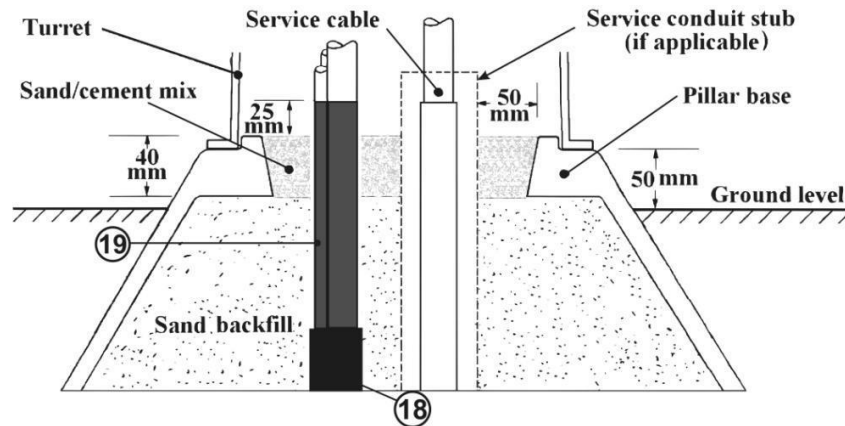

Figure 20 - Pillar Base Details
- 9) Refer to Figure 20 for service conduit stub details (if applicable).
- 12) A conduit stub shall be installed in accordance with Figure 20 for each cable that has not been initially laid prior to the installation of the pillar noting the following: